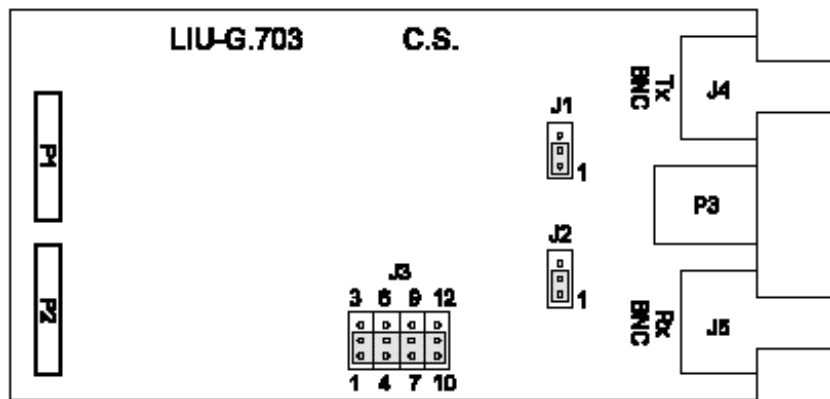

Figure B-3. E1 Unbalanced (Coax connector, 75 W)
2. Loosen and remove the two screws on the rear panel. Carefully slide out the boards. The jumpers are located at the bottom side of the LIU board shown in Figure B-3.